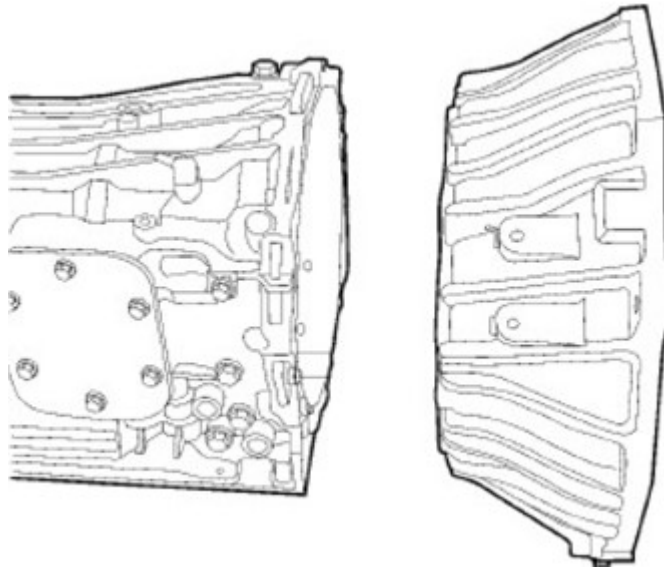

Fig. 4
7. Remove the bolts securing the torque converter housing to the transmission case and remove the housing (Fig. 4) .